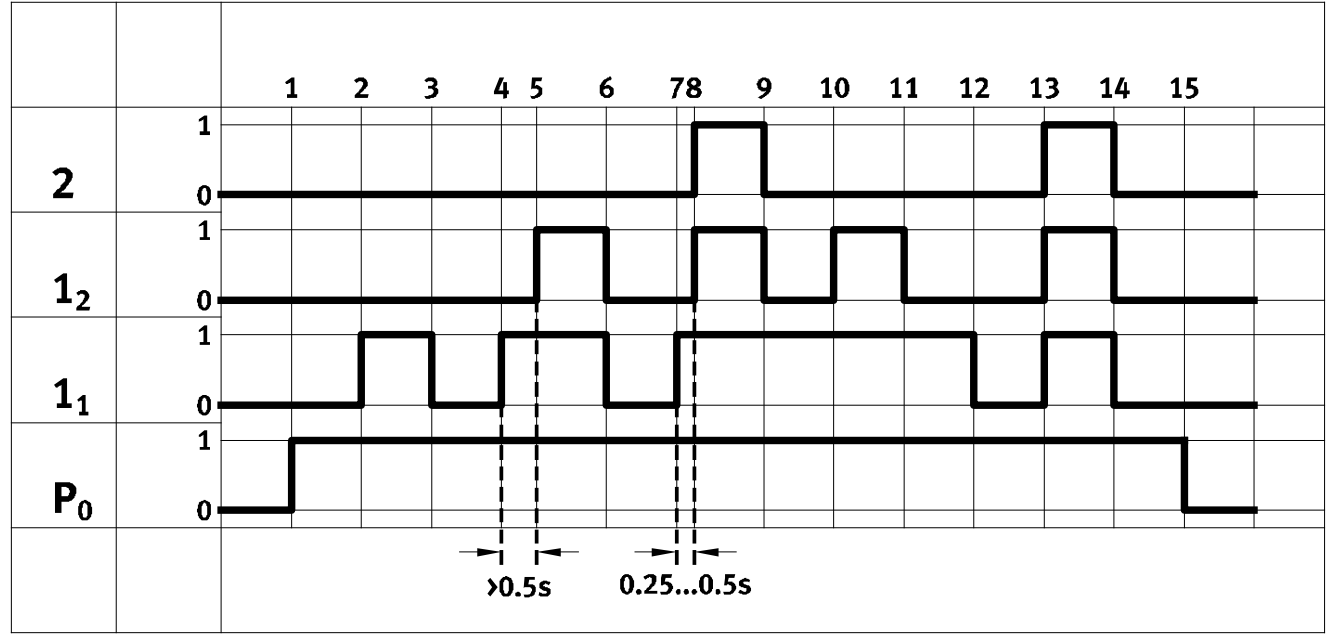

Fig. 5 Performance test, step 1 to 15
- 2. Supply inputs 1₁ and 1₂ gradually with pressure as shown in Fig. 5.
- 3. At each step check to make sure outlet port 2 behaves as shown in Fig. 5.